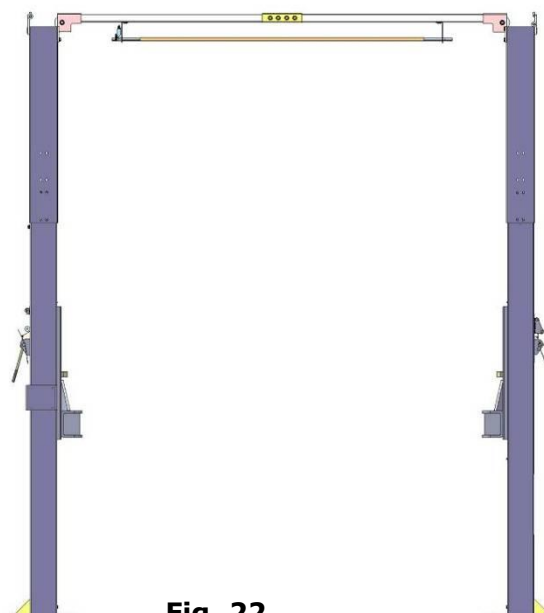

Fig. 22
J. Lift the carriages up to about 3 feet high by hand and rest them on the locks at the same level (**See Fig. 22**).